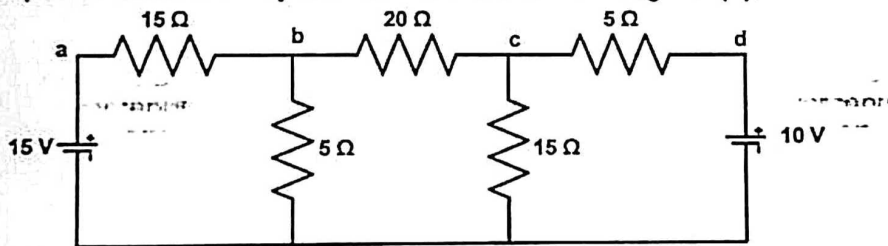

Fig.Q2(a)
- a) Using mesh analysis, find voltage drop across 20 ohm resistor and the power consumed by it for the circuit shown in Fig. Q2(a).